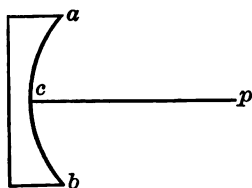

FIG. 150
**219. Concave Mirrors.**—A *concave* surface curves inward. Fig. 150 shows a concave surface, *acb*, used as a mirror. The point *c* is called the *vertex* of the mirror; *p* is the center of the figure, of which the mirror is a part of the surface; *pc* is called the *principal axis*. It is